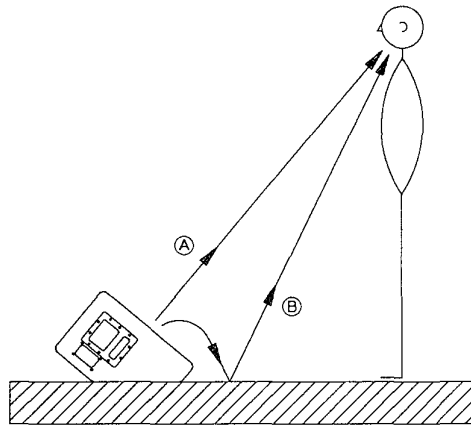

Fig. 1
When a floor monitor speaker is used, direct sound (A) and reflected sound (B) are both heard simultaneously at the listening point, as shown in Fig. 1, while both sounds are combined into one frequency response. The reflected sound produces dips (a drop in SPL at the specified frequency) in the frequency response. The AC-M1 has an internal equalizer to correct the dips for the best possible sound reproduction. Usually set the FC switch to IN.